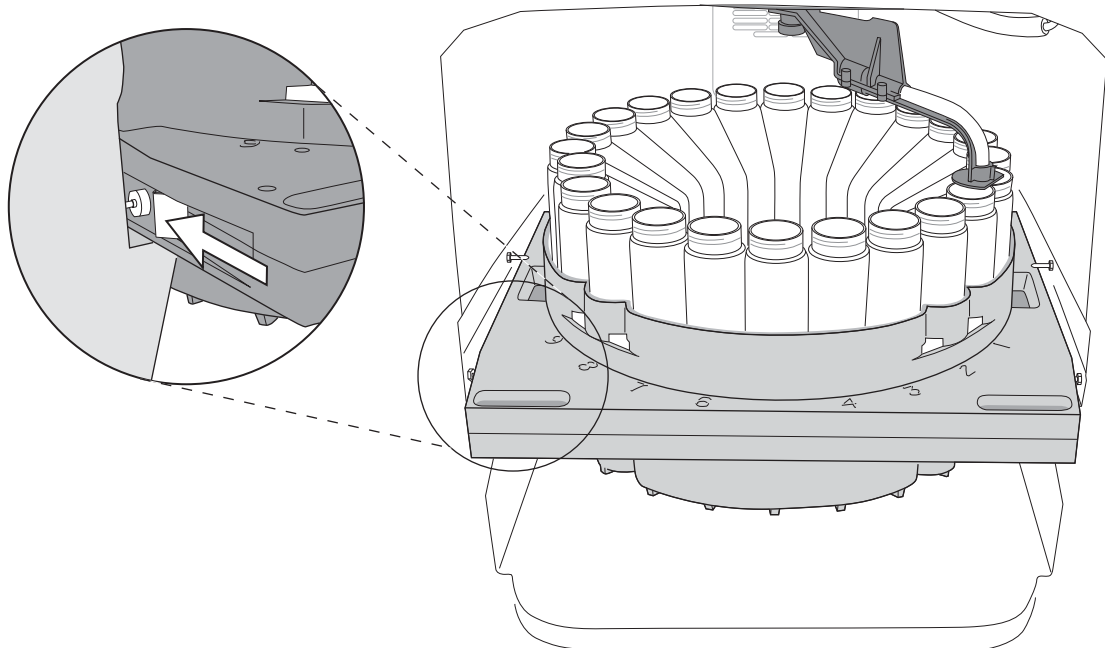

Figure 2-4 The 24-bottle rack is held in place by a latch on the left side
5. Slide the rack along the guides. Push the rack in until the left-side latch (inset, Figure 2-4) secures the rack.